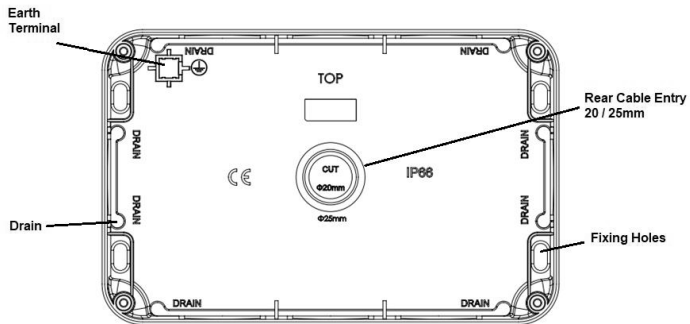

Fig. 2
- The backbox has drain hole drilling guides marked (see Fig. 2). Drilling a drain hole is advised if the unit is installed in a location subject to temperature fluctuations where a build-up of condensation may occur. It is not advised if the unit will be subject to high pressure jets as drilling a drain hole will reduce the IP rating. A 3-5mm hole should be drilled at the bottom back edge of the enclosure where marked. If wiring in conduit to the bottom entry, the drain hole should be drilled at the lowest point of the conduit run not in the backbox